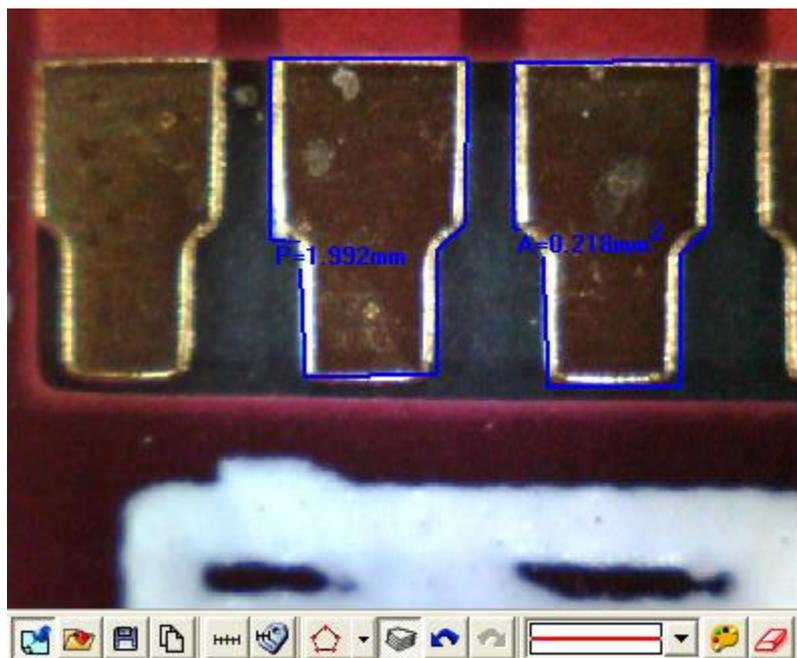

Fig 5-73 Polygon
- (10) Polygon : A polygon is a shape that is made up of many sides and has only line segments. Choose “” to measure the area and Perimeter, See Fig 5-73, the calculated polygon P (Perimeter) is 1.992mm, A(Area) is 0.218 mm^2 .